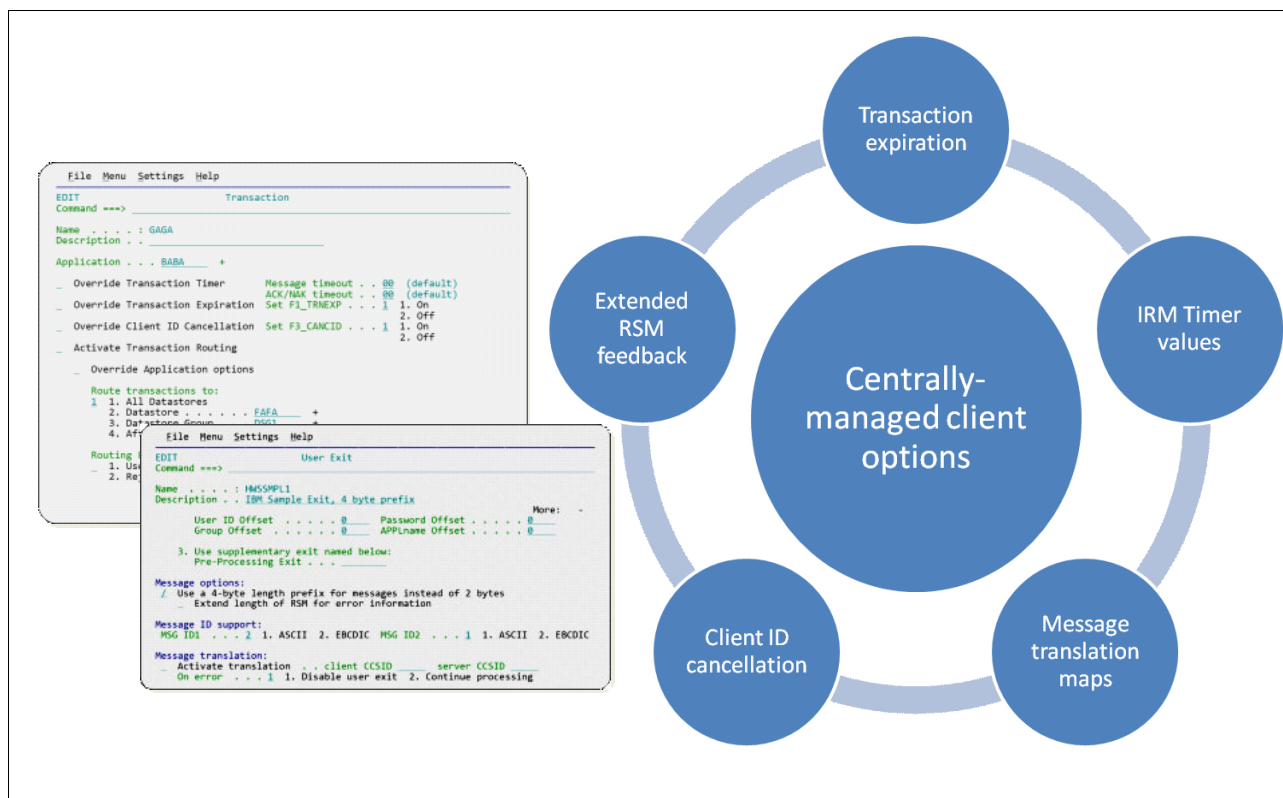

Figure 3-40 Centrally-configurable client options
- ▶ Extended RSM: Provides more feedback to clients when an RSM appears, as shown in Figure 3-40.